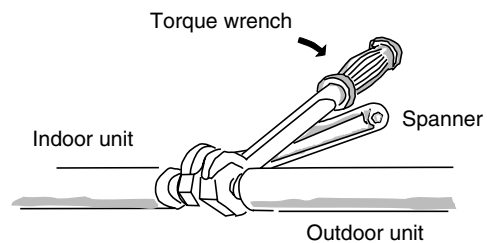

Fig. 5-6
- (1) Tightly connect the indoor-side refrigerant tubing extended from the wall with the outdoor-side tubing.
- (2) To fasten the flare nuts, apply specified torque as at right:
- When removing the flare nuts from the tubing connections, or when tightening them after connecting the tubing, be sure to use 2 adjustable wrenches or spanners as shown. (Fig. 5-6) If the flare nuts are over-tightened, the flare may be damaged, which could result refrigerant leakage and cause injury or asphyxiation to room occupants.